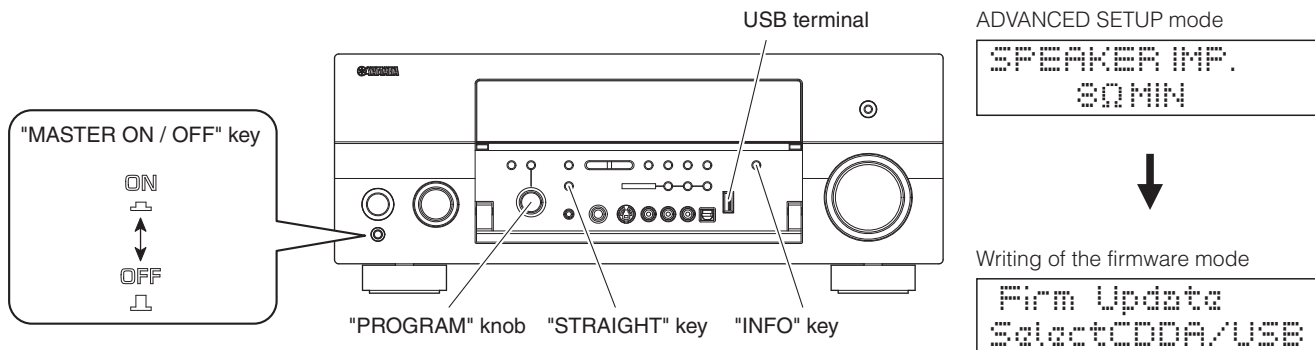

Fig. 4
4. Press the "MASTER ON/OFF" key of this unit while simultaneously pressing the "STRAIGHT" key of this unit. Then the ADVANCED SETUP mode is activated. (Fig. 4)
5. Press and hold the "INFO" key of this unit for about 3 seconds. (Fig. 4)
Writing of the firmware is started. (Fig. 4)
7. Press the "INFO" key of this unit. (Fig. 4)
8. Insert the USB flash memory to the USB terminal of this unit. (Fig. 4)